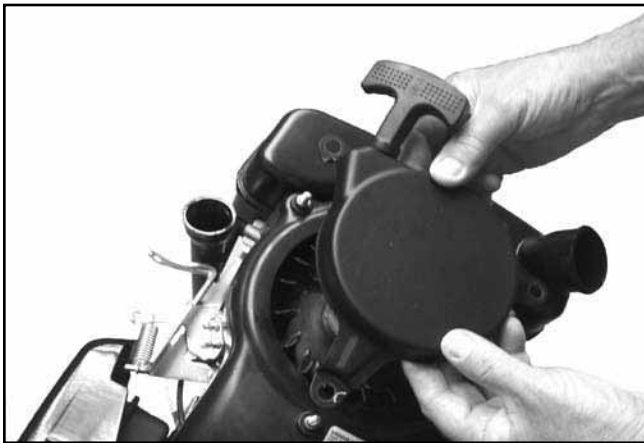

Figure 8-5. Removing Recoil.
1. Lift off the recoil starter. See Figure 8-5.